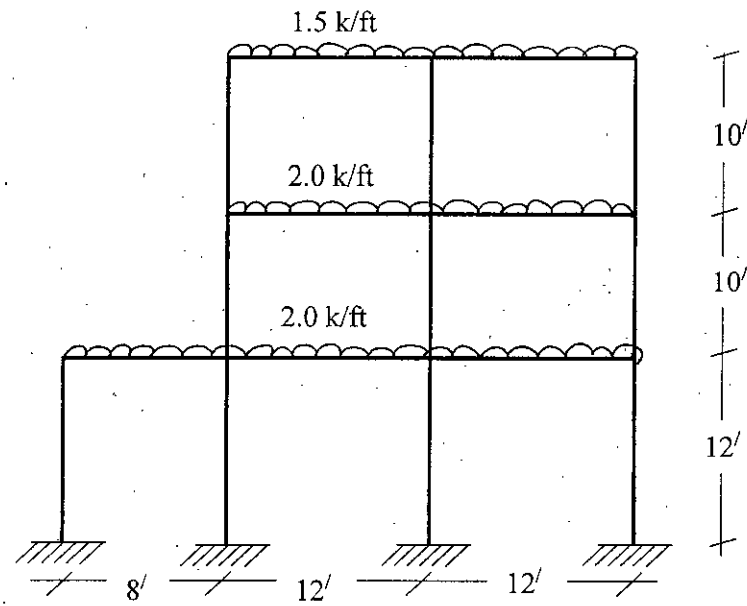

Fig. 10
11. Draw the shear force and bending moment diagrams for the building frame loaded as shown in Fig. 10. (28)